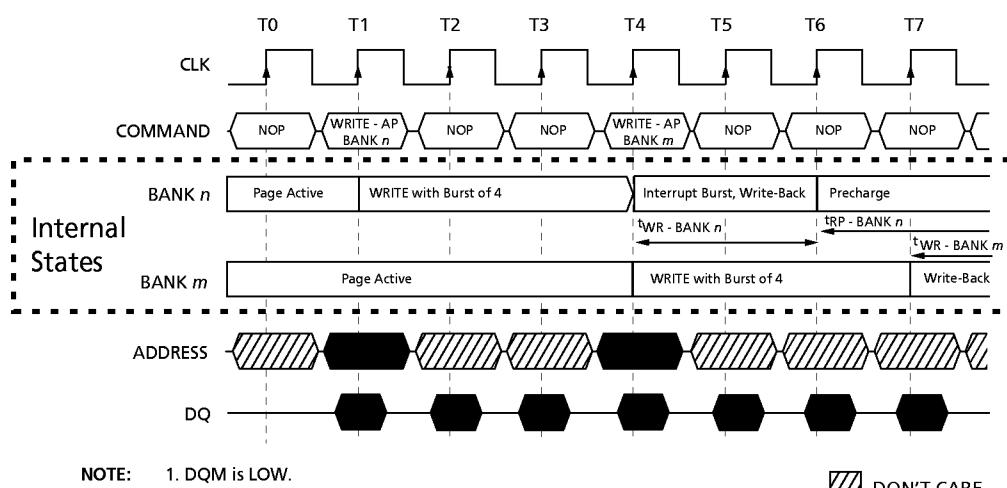

Figure 27
4. Interrupted by a WRITE (with or without auto precharge): A WRITE to bank m will interrupt a WRITE on bank n when registered. The PRECHARGE to bank n will begin after t^{WR} is met, where t^{WR} begins when the WRITE to bank m is registered. The last valid data WRITE to bank n will be data registered one clock prior to a WRITE to bank m (Figure 27).